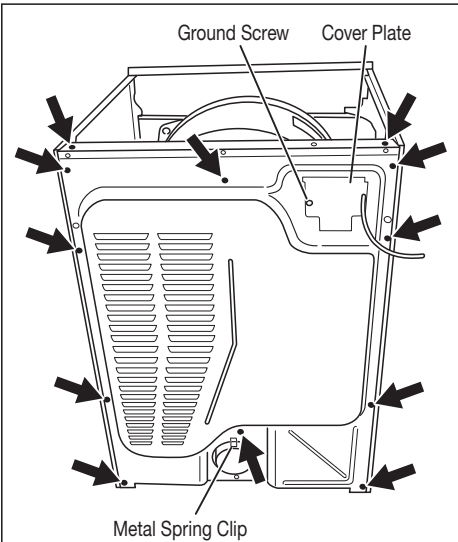

Figure 20. Remove 12 screws.
- 4. Remove the metal spring clip between the back panel and the exhaust outlet. See figure 20.
- 5. Remove the ten screws on the rear, and two screws on the top of the back panel. Pull the back panel off the dryer. See figure 20.